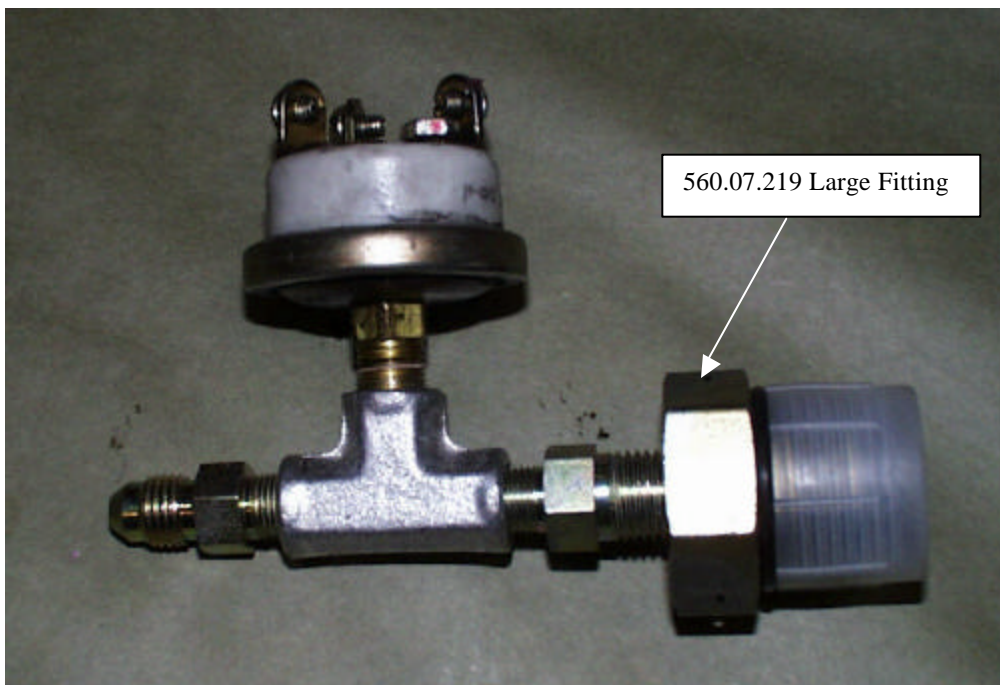

Figure 1. Auto Ignition Pressure Switch Installation
2. Remove the oil line running to the torque transducer at the fitting installed in the engine (Refer to Figure 1 and Drawing 560.07.200). Remove the large fitting from the engine.
3. Install the 560.07.219 large fitting into the engine, the 5404-4-2 pipe union, 5605-2-2-2 Pipe Tee, 2404-4-2 Pipe to Flare union, and Auto Ignition Pressure Switch as shown in Figure 1 and Drawing 560.07.200.